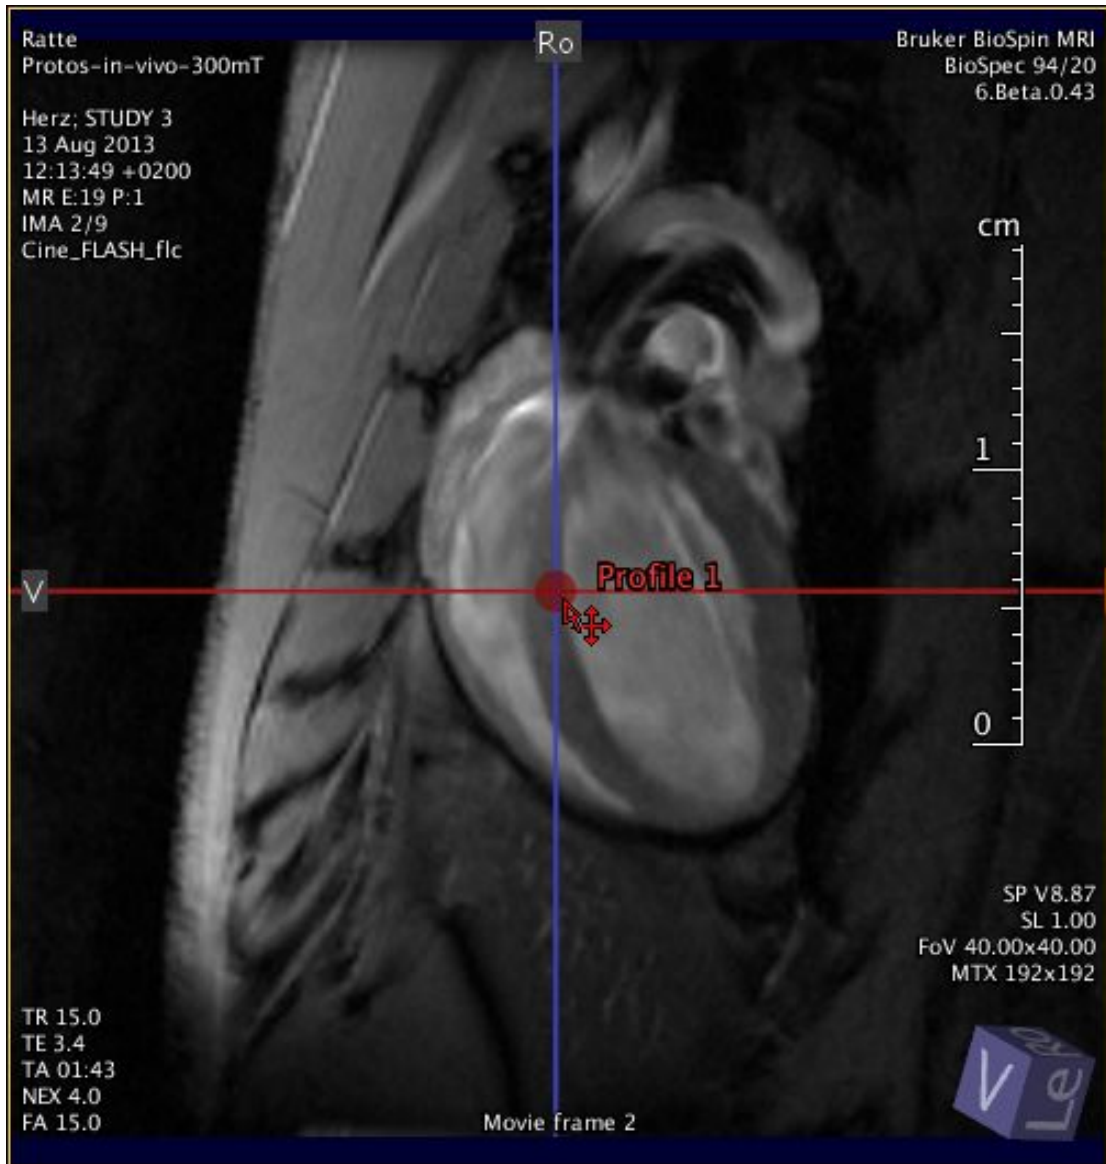

Figure 1.136: Move a Profile
- The mouse pointer changes to  and the center is highlighted (see Figure 1.136 [▶ 158]).